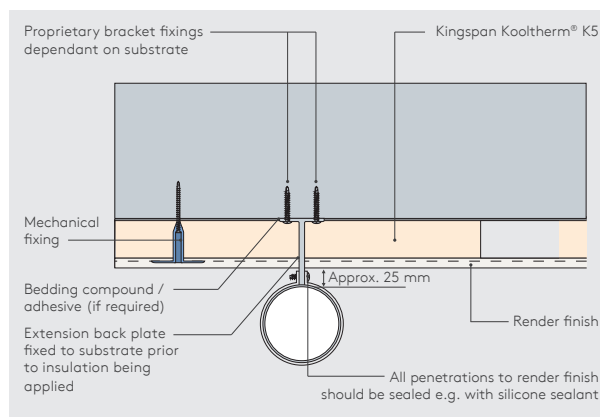

Figure 8 - Drainpipe Extension Detail (Applicable to a Variety of External Building Ancillaries)
- Wherever possible, care should be taken to avoid cold bridging when attaching services and ancillaries to the exterior of the building (see Figure 8).